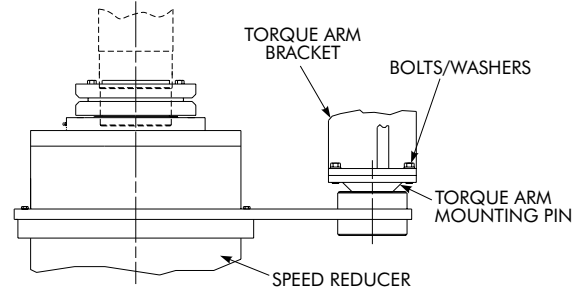

Figure 2.2c Mounting of Torque Arm Pins to Torque Arm Bracket
4. Tighten the bolts with washers, shimming if necessary. Reference Table 2, Page 21 for recommended bolt torques. Reference Figure 2.2c.